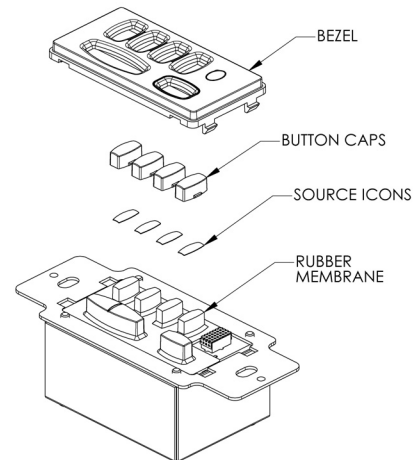

Figure 13. Configuring Source Buttons
3. Remove keypad bezel as shown in **Figure 13**. Be careful to not let the rubber button membrane fall off. Do not touch the circuit board.